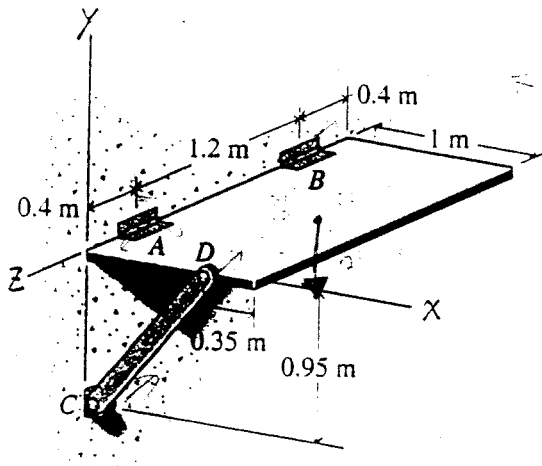

Fig. 1
- (1) The door shown in Fig. 1 has a mass of 25 kg and is supported in a horizontal position by two hinges and a bar. The hinges have been properly aligned; therefore, they exert only force reactions on the door. Assume that the hinge at *B* resists any force along the axis of the hinge pins. Determine the reactions at supports *A*, *B* and *D*. (35 marks)